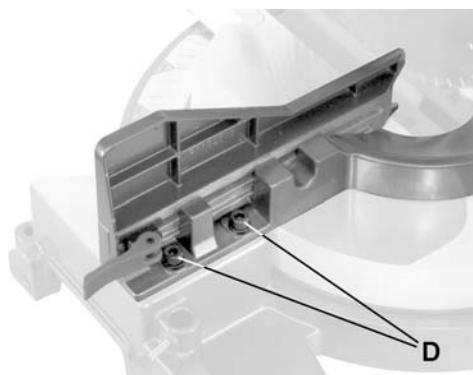

Figure 18
1. Loosen four *fence locking screws* (D, Fig. 18). **Note:** two locking screws to each fence.